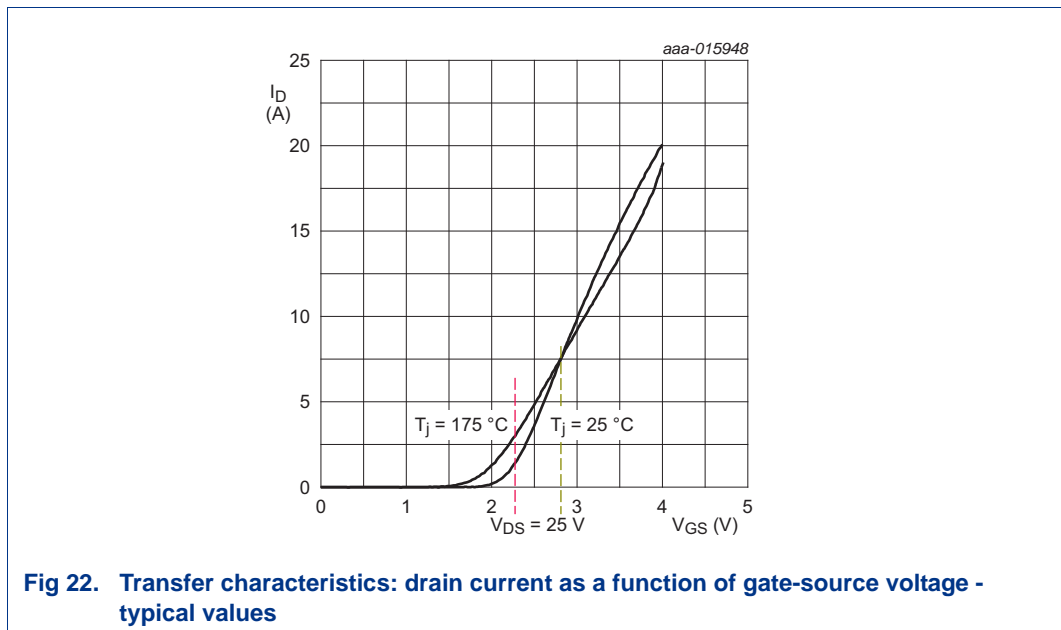

Fig 22. Transfer characteristics: drain current as a function of gate-source voltage - typical values
1. The graph depicted in Figure 22 is typical. The BUK9275-55A MOSFET has a distribution of parameter values within the production tolerance limits. The graph is only intended to illustrate how I_D , V_{DS} and V_{GS} are related when the MOSFET is operating for a particular V_{DS} condition. $V_{GS(th)}$ has a significant influence on the characteristic of a particular device. Temperature is also a major factor. The limiting values and characteristics listed in the data sheet should be used for circuit design.
2. Junction temperature T_j strongly affects the I_D / V_{GS} characteristic. The graph in Figure 22 is for $T_j = 25\text{ }^\circ\text{C}$ and $T_j = 175\text{ }^\circ\text{C}$. The same graph for the same part with $T_j = -55\text{ }^\circ\text{C}$, would be very different. The mode of operation preferred by the customer is with V_{GS} in the range 2.2 V to 3 V in the saturation region before full enhancement. In this mode, the MOSFET power dissipation is likely to be significant. As a result, the junction temperature may be high. Figure 22 demonstrates how I_D changes with T_j for a given V_{GS} value.